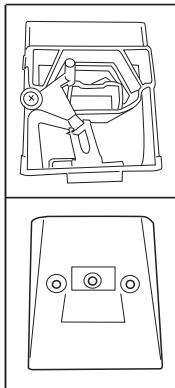

Fig. 18
- Clean the hopper, both inside and outside, to remove any obstructions at the three holes (**Fig. 18**)